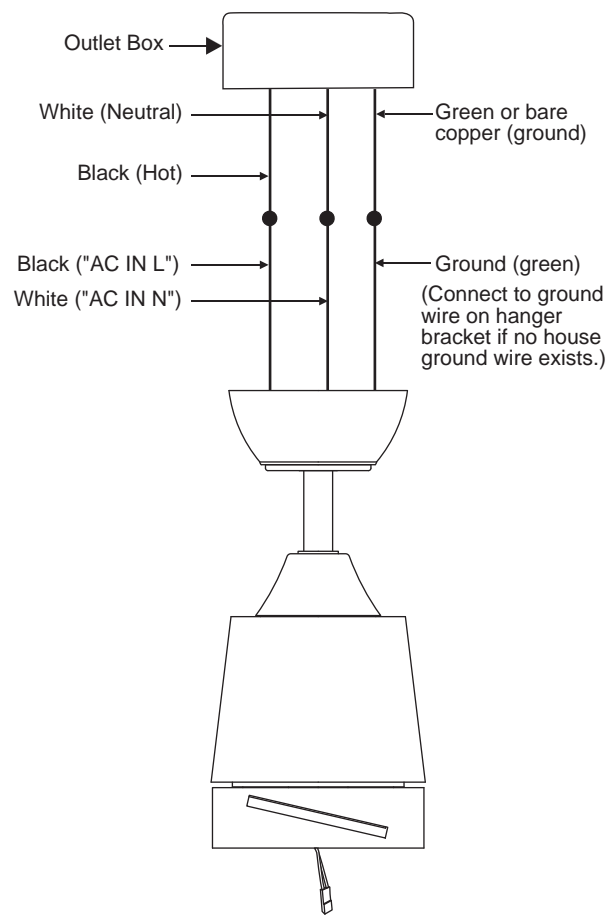

Figure 9
Step 1. Motor to House Supply Wires Electrical Connections: Connect the WHITE wire (Neutral) from the outlet box to the WHITE wire marked "AC in N" from the motor. (Fig. 9)
Step 2. Connect the BLACK wire (Hot) from the outlet box to the BLACK wire marked "AC in L" from the motor. (Fig. 9)
Step 3. (Fig. 9) If your outlet box has a ground wire (green or bare copper) connect it to the fan ground wires; otherwise connect the hanging bracket ground wire to the mounting bracket. Secure the wire connection with a plastic nut provided. After connecting the wires, spread them apart so that the green and white wires are on one side of the outlet box and black and blue wires are on the other side. Carefully tuck the wire connections up into the outlet box.